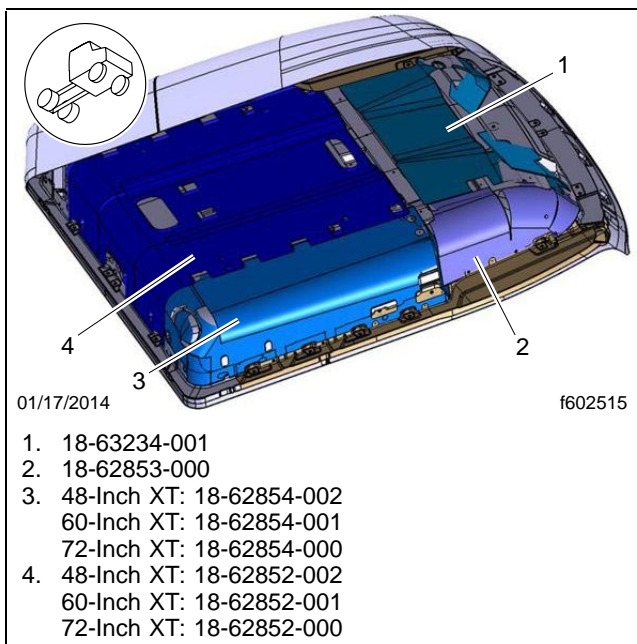
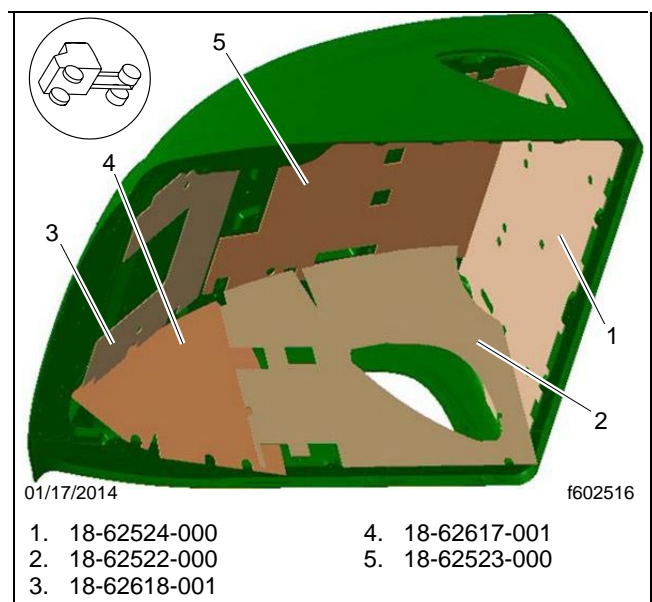

Fig. 11, XT Roof Cap Premium Insulation Blankets
Fig. 12, Raised Roof Cap Premium Insulation Blankets
20. Using the Silaprene adhesive, install the premium insulation blankets on top of the premium inserts. For part identification, see **Fig. 11** or **Fig. 12**, as applicable.